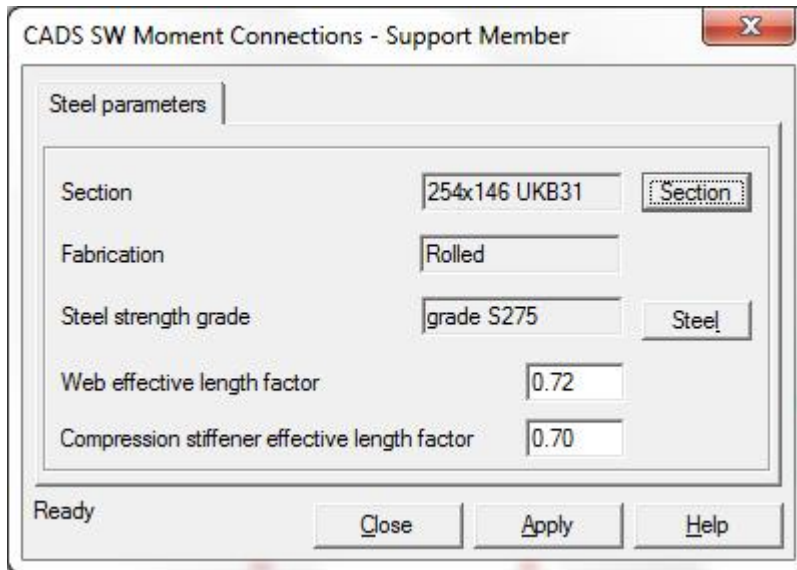

Fig 4.8
- Open the Support member dialog to change the default section to the required beam section 254x146UKB31 as shown in fig 4.8